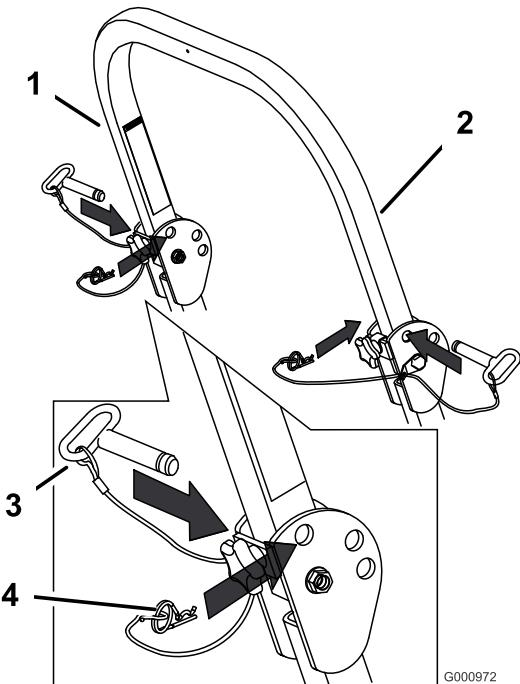

Figure 6
2. Remove the hairpin cotter pins and remove the two pins (Figure 6).
4. Install the two pins and secure them with the hairpin cotter pins (Figure 6).
- To raise the roll bar, remove the hairpin cotter pins and remove the two pins (Figure 6).
- Raise the roll bar to the upright position and install the two pins and secure them with the hairpin cotter pins (Figure 6).